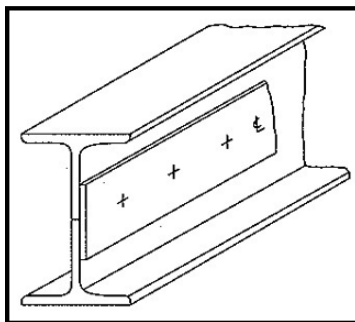

FIGURE 4.2
4.2 Identify the template shown in Figure 4.2.